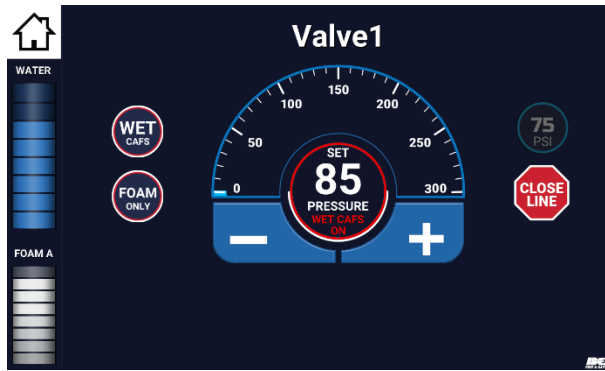

Figure 17. FOAM ONLY Bubble
- A. On SCC Home screen, touch desired active CAFS discharge. Valve X screen (discharge valve control screen) displays. See Figure 17.